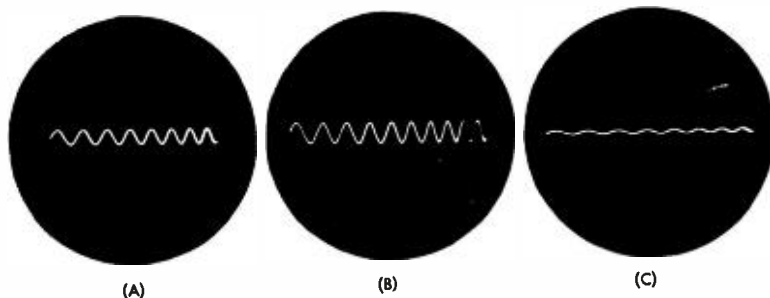

Fig. 2. Oscilloscope traces showing sound pressures inside the speaker cabinet at 1000 cps. (A), cellulose; (B), fibrous glass; and (C), felt.
Figures 1 through 3 are photographs of oscilloscope traces made during the Sound Absorption tests. Figure 1 shows the sound pressures inside the speaker cabinet for a frequency of 50 cps, Fig. 2 the same data for 1000 cps, and Fig. 3 for 15,000 cps. In each case, (A) represents the cellulose material, (B) the
Fig. 2. A stereo tape machine utilizing a plug-in attachment for recording second channel. (Tandberg) Unit of the left is the auxiliary recording amplifier for the second channel; without it, the machine plays stereophonically and records monophonically.